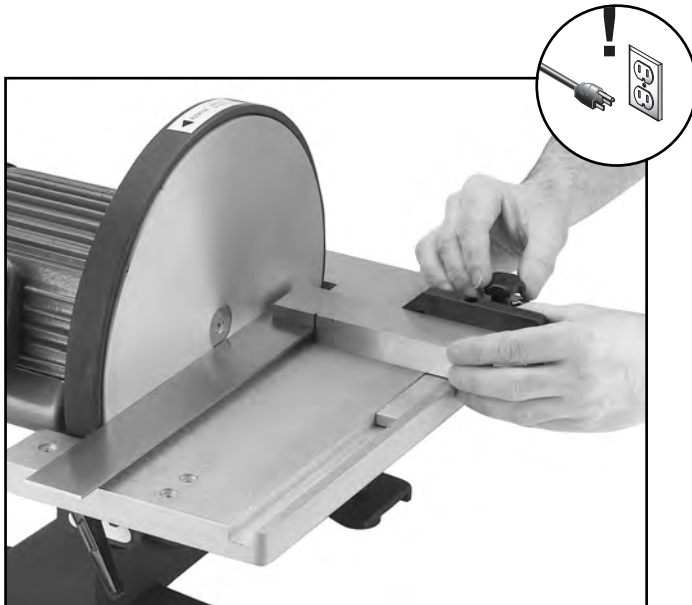

Figure 4. Squaring miter gauge to disc.
1. Use a try square or machinist's square with one edge against the face of the miter gauge and the other against the disc face as shown in **Figure 4**.